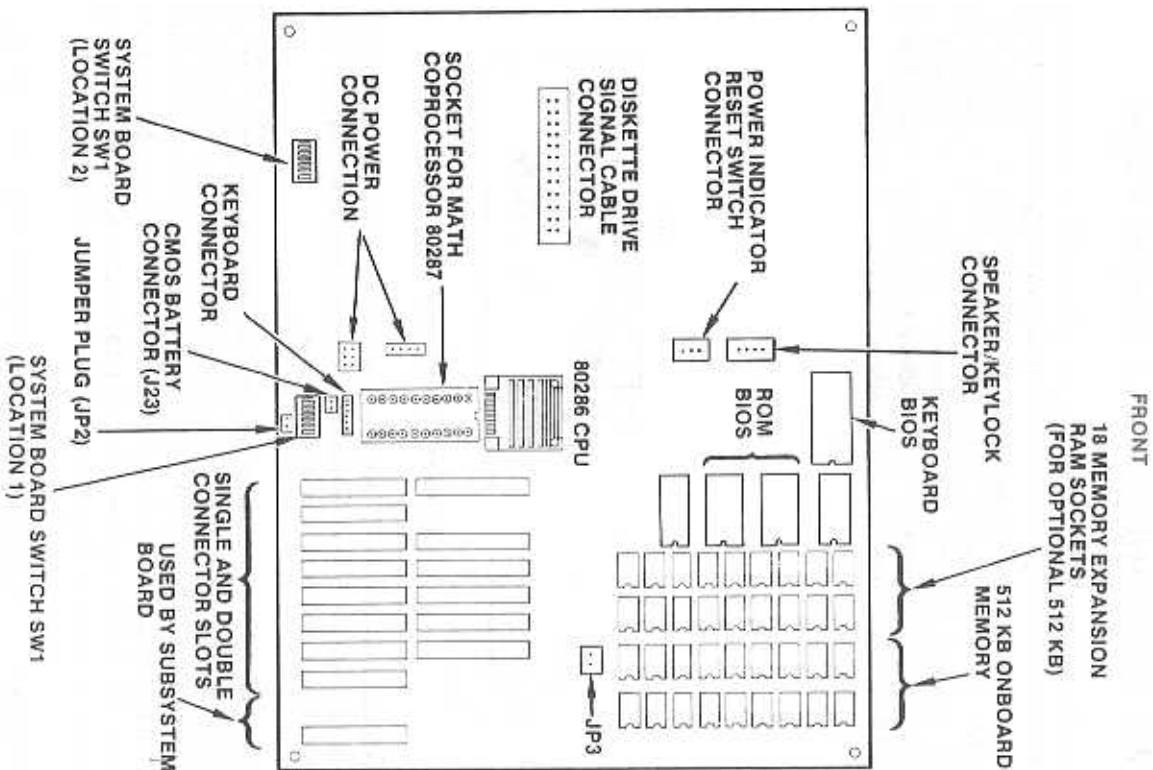
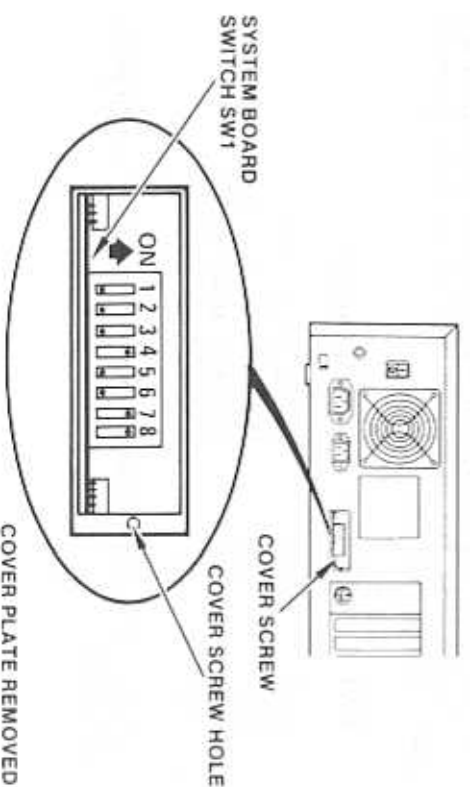

Figure 2-3. System Board
Figure 3-7. System Board SW1 Switch in Location 2
Figure 2-3 identifies connectors, switch SW1, jumper plug JP2, and chip sockets on the system board (the floor of the system unit). The connectors into which the controller boards are inserted are also shown in Figure 2-3.
Some boards must be installed in single or double-connector locations (Figure 2-3); the rest can be used in any location. Examine the bottom edge of the board to see where it will fit.
There are two possible locations for SW1. Figure 2-3 (in section 2.2) shows location 1 (which requires the system unit cover be removed to access the switch) and location 2 (which can be accessed through the small panel next to the keyboard connector on the rear panel). SW1 in location 1 works in conjunction with jumper plug JP2. SW1 in location 2 does not use JP2; instead, it uses switch position SW1-5. Refer to Figure 3-7.
1. As shown in Figure 3-7, remove the screw holding the right end of the rear panel plate.